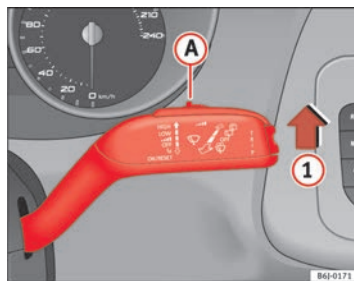

Fig. 63 Windscreen wiper lever
- Move the windscreen wiper lever into position ① ⇒ fig. 63.
- Move the control ① to the left or right to set the sensitivity of the rain sensor. Control to the right: highly sensitive. Control to the left: less sensitive.